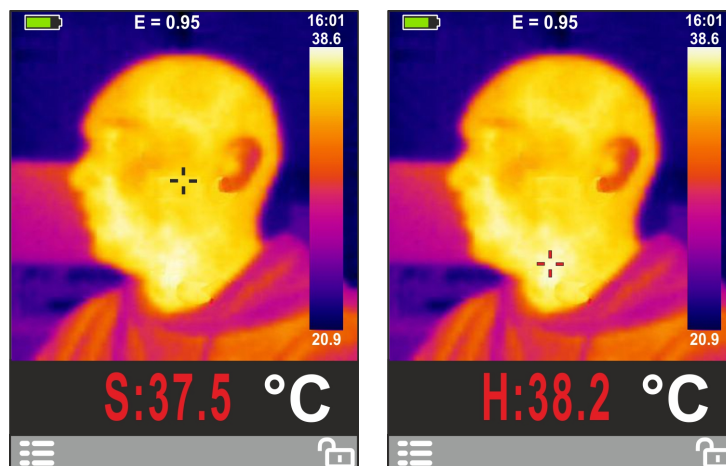

Fig. 18: Visualization of alarm condition in Screening function
7. Frame the subject on test at a **maximum distance of 20cm**. With temperature of the subject higher than the set alarm threshold value, the instrument shows the value associated with the cursor "S" in red color in the lower part of the display (see Fig. 18 – left part) and a continuous beep is emitted by the instrument
8. With activation of the "H" cursor (hottest point) the instrument always shows as priority the point with maximum temperature of the framed image. If this value is higher than the set alarm threshold it will be shown in red color in the lower part of the display (see Fig. 18 – right part) and a continuous beep is emitted by the instrument